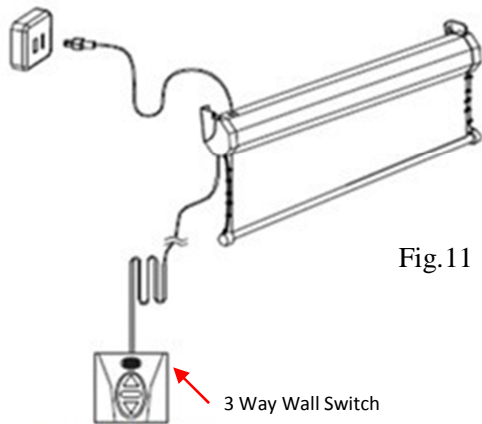

Fig.11
**2. 3-Way Wall Switch (Item B, Fig. 11):** The 3-way wall switch is a wall mount control box with an up/stop/down button and plugs directly into the